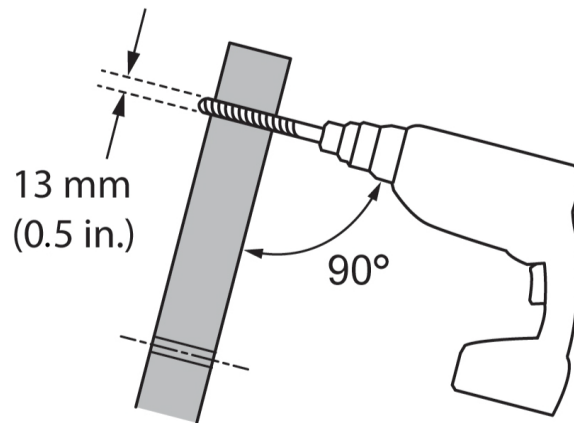

Fig. 44 Installing Transom mount
2. Drill 13 mm (0.5 inches) mounting holes perpendicular to the transom. See Figure 44.